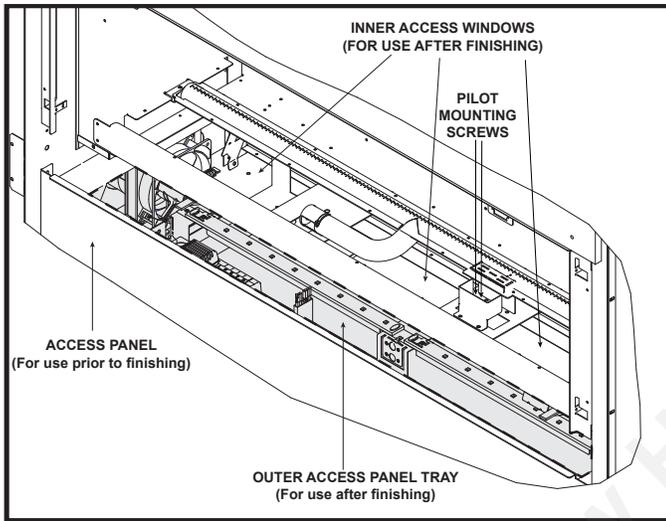

Figure 9.2 Gas and Electrical Access
The lower access cover panel is removable if finishing material is not installed. See Figure 9.2.
6. There are three access windows located on the interior of the firebox bottom. See Figure 9.2. Remove screws and plate to access the manual shutoff valve included with this fireplace.
- Remove the base pan. It is attached with 14 screws to the interior firebox bottom and with 19 screws to the burner assembly. If your appliance is a model that has the glass rock media, you must also remove the pilot shield cover at this time. See Figure 9.2 and Figure 9.3.
- Remove access panel covers or glass windows, along with gaskets. Gaskets may be fragile. Handle with care. See Figure 9.2.